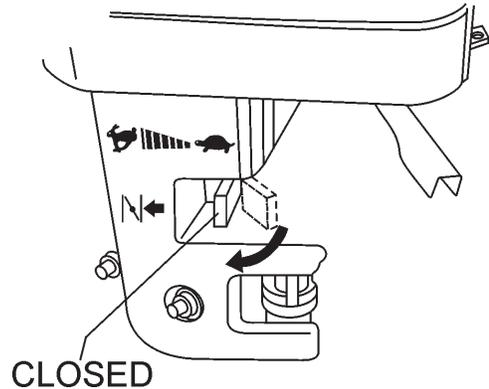

Figure 8. Engine Choke Lever (Closed)
3. Place the **choke lever** (Figure 8) in the "CLOSED" position if starting a **cold** engine.